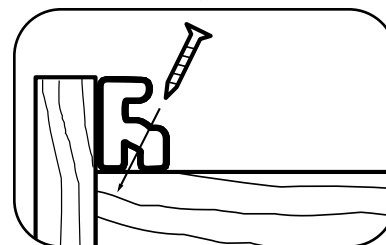

Fig. 3
- Place TimberTech Starter Strip along leading edge of deck and drive screws as shown (Fig. 3).